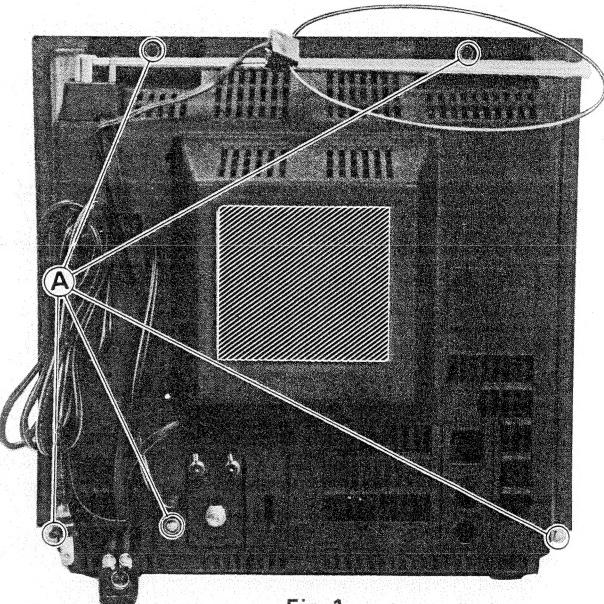

Fig. 1
1. Remove the five screws **A** shown in Fig. 1 and detach the rear cover by pulling it backward.